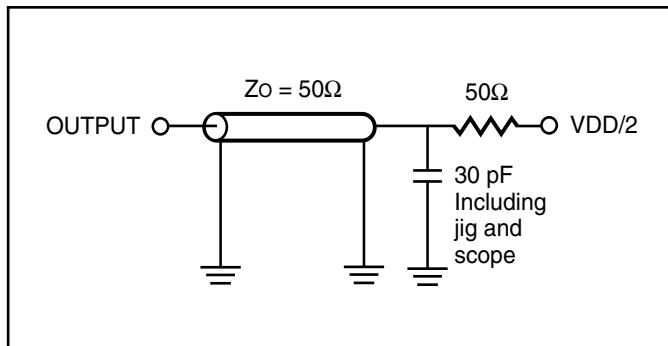

Figure 1.
| Output Load  | See Figures 1 and 2            | See Figures 1 and 2            | See Figures 1 and 2            |
1. Test conditions assume signal transition times of 3 ns or less, timing reference levels of 1.5V, input pulse levels of 0V to 3.0V and output loading specified in Figure 1.